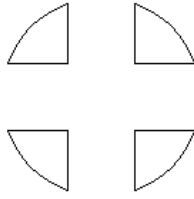

Fig. 1.7.21
**Subtract:** Retain the none-overlapping part of main object, see Fig.1.7.21.